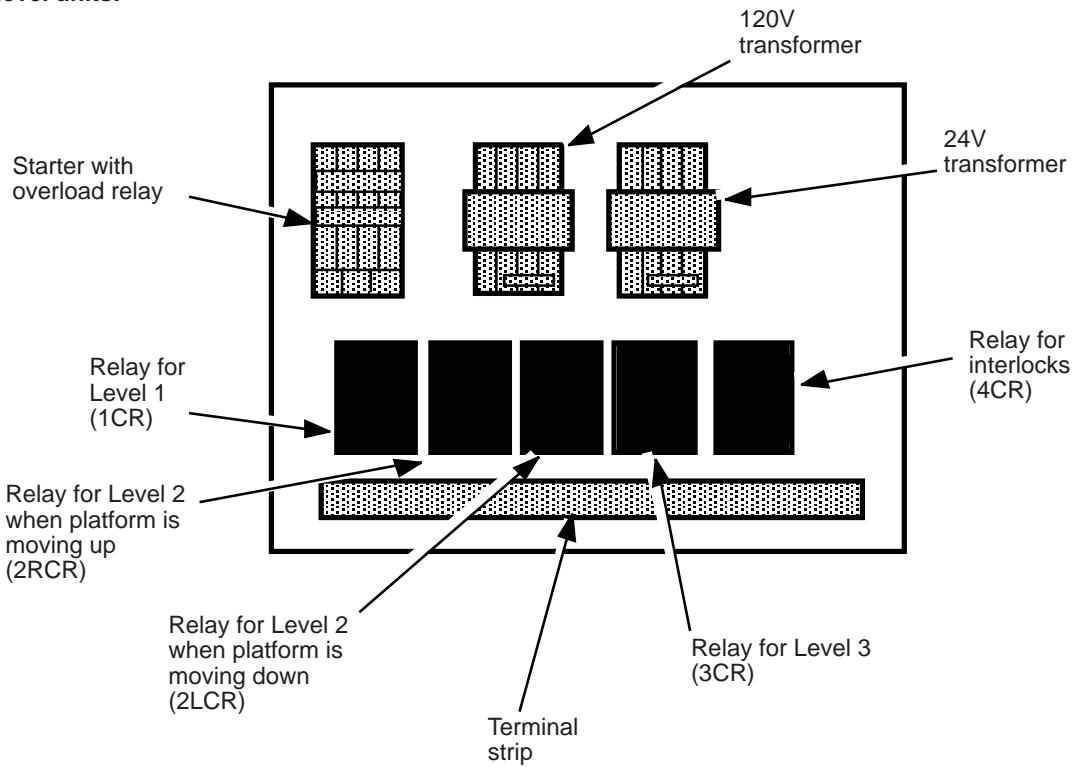

Fig. 2-2 – Control Enclosures
3. Make temporary power connections to the lift. See Fig. 2-2. Incoming three-phase power should be terminated at the terminals marked L1, L2 and L3 on the motor starter. For single-phase applications, use terminals L1 and L2 only. These temporary connections will allow you to operate the lift during installation.